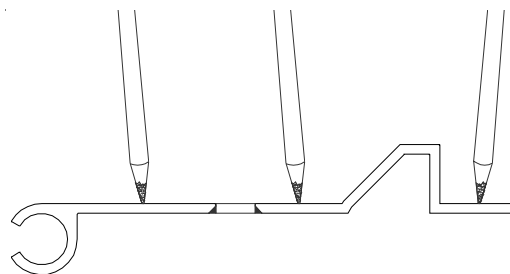
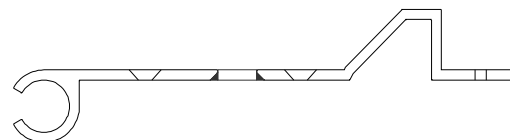

Figure 2
Figure 3
STEP 3. Select a section of the base member and the corresponding section of the hinge. If the anchor holes have not been predrilled in the base members and hinges at the factory, mark the locations for the anchor holes on the selected base member and hinge (see Figure 2). Standard anchor spacing is 20" O.C. with an anchor at a nominal 3" from each end of the base member. Drill the anchor holes for the hex head anchors and for the flat head anchors into the base members at the marked locations (see Figure 3). The